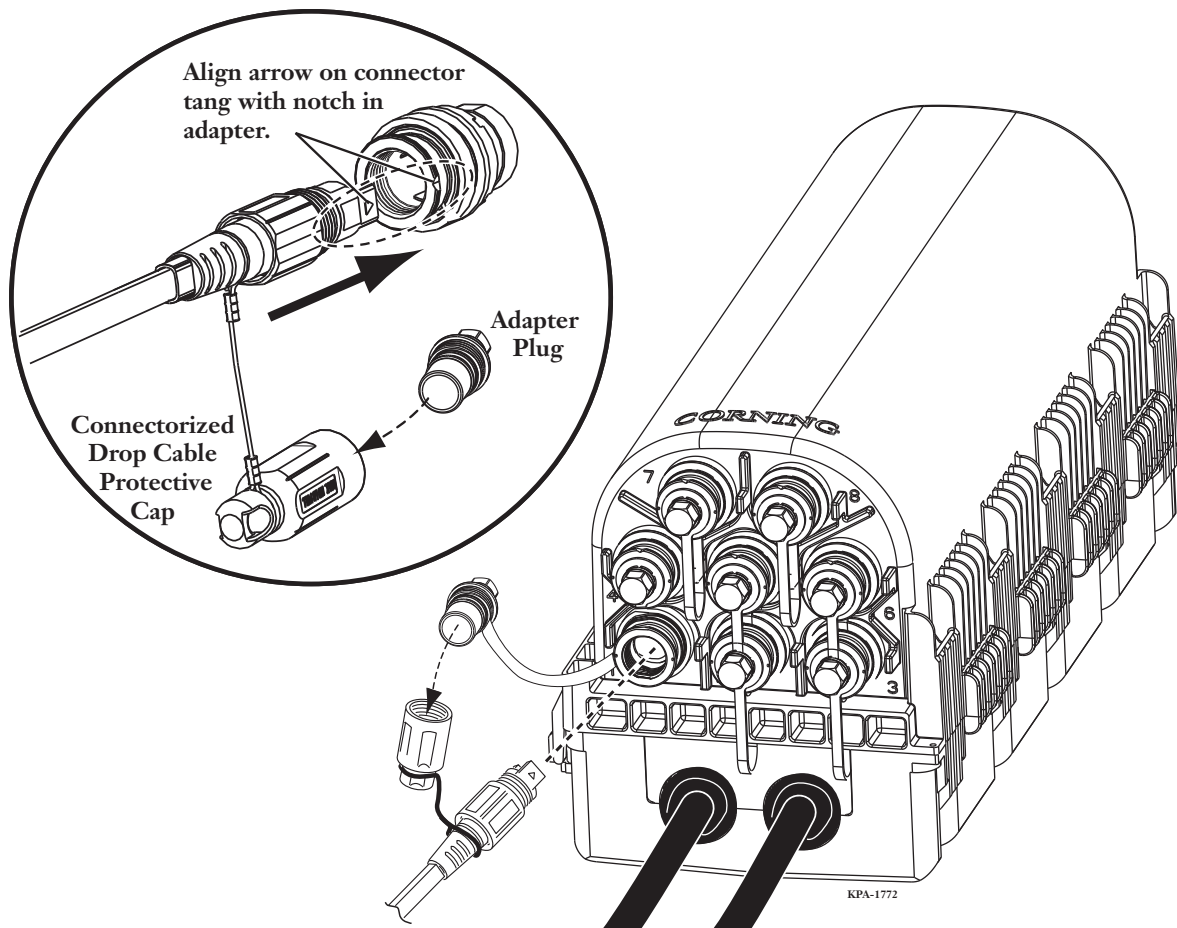

Figure 59
- Step 1:** Insert the connectorized drop cable into the OptiFit adapter. Orient the arrow on the connector tang with the notch in the adapter (Figure 59).